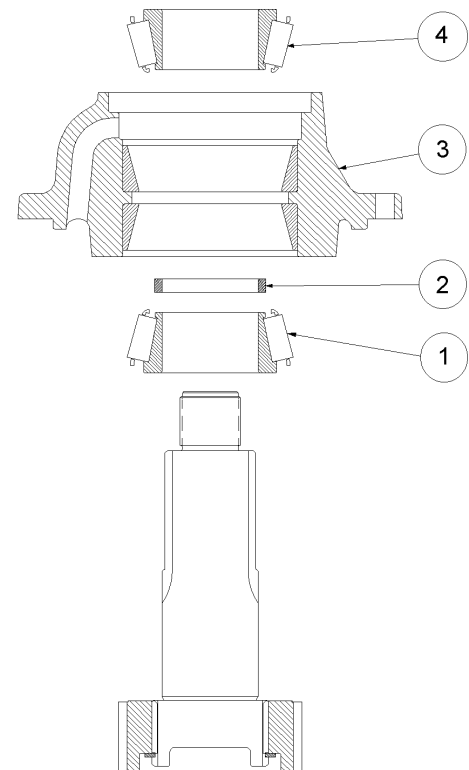

Fig. 46
3. Install a heated bearing (1), bearing spacer (2), front output carrier (3), and heated outer bearing (4) in the order shown in *figure 46*.